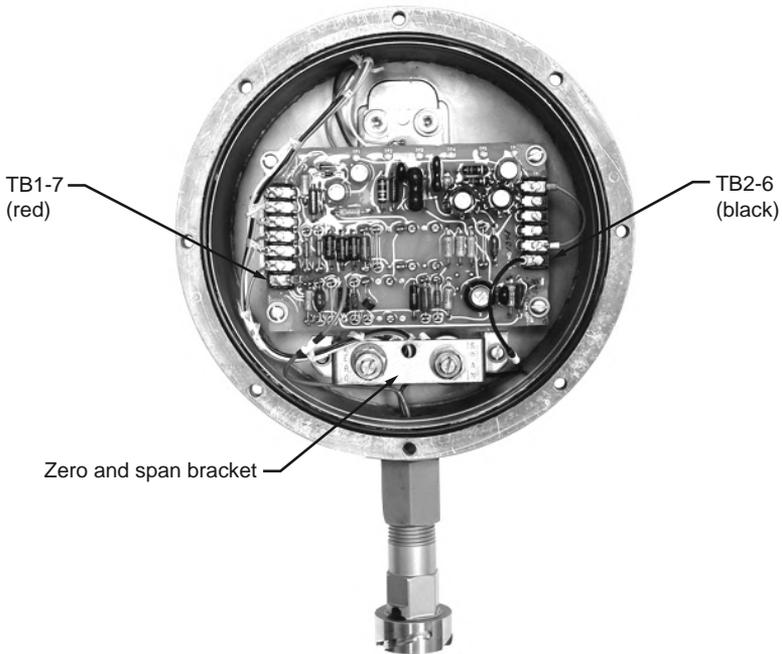

Figure 4.2—Wiring for EGS quick disconnect connector assembly
3. Disconnect the red and black signal leads from the transmitter circuit board (TB 1-7 & TB 2-6) as shown in Figure 4.2, page 27.
4. Connect the red and black signal leads to the transmitter circuit board (TB 1-7 & TB 2-6) as shown in Figure 4.2.